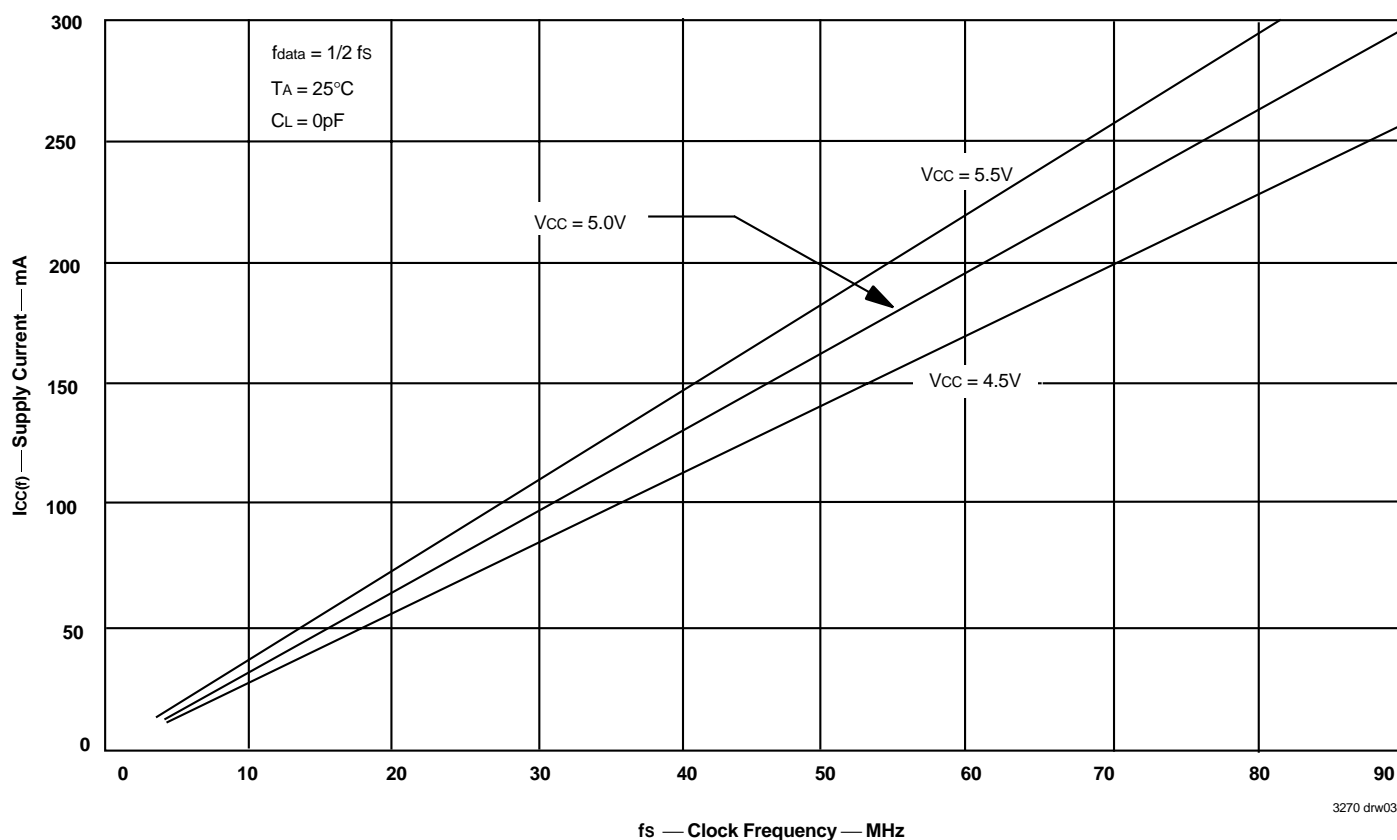

Figure 1. Typical Characteristics: Supply Current (I_{CC}) vs. Clock Frequency (f_s)
- For additional I_{CC} information, see Figure 1, *Typical Characteristics: Supply Current (I_{CC}) vs. Clock Frequency (fs)*.
The $I_{CC(1)}$ current for the graph in Figure 1 was taken while simultaneously reading and writing a FIFO on the IDT723624/723634/723644 with CLK A and CLK B set to f_s . All data inputs and data outputs change state during each clock cycle to consume the highest supply current. Data outputs were disconnected to normalize the graph to a zero capacitance load. Once the capacitance load per data-output channel and the number of IDT723624/723634/723644 inputs driven by TTL HIGH levels are known, the power dissipation can be calculated with the equation below.
With $I_{CC(1)}$ taken from Figure 1, the maximum power dissipation (PT) of these FIFOs may be calculated by: